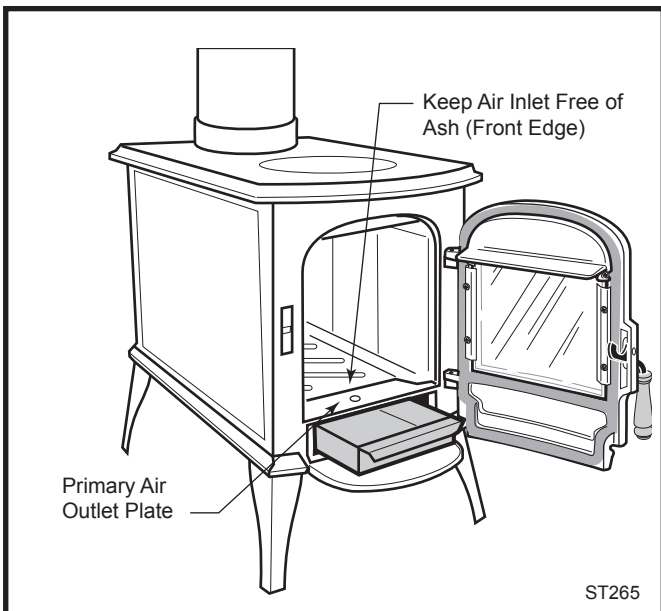

Fig. 31 Primary air outlet - keep clear of ash and charcoal accumulation.
Step 3. Use a fireplace tool to break up the charcoal and direct ash through the grate. Pull the charcoal from the back to the front. This will encourage efficient combustion as the fuel burns from front to rear. (Fig. 31)
IMPORTANT: A critical source of air into the Aspen firebox is located in front of the ash grate as shown in Figure 31. If this air slot becomes plugged with ash, a sluggish, cool fire and dirty glass will result. Keep this air slot clear of ash. Refer to the Maintenance section for instructions to more thoroughly clean ash from beneath the primary air plate.